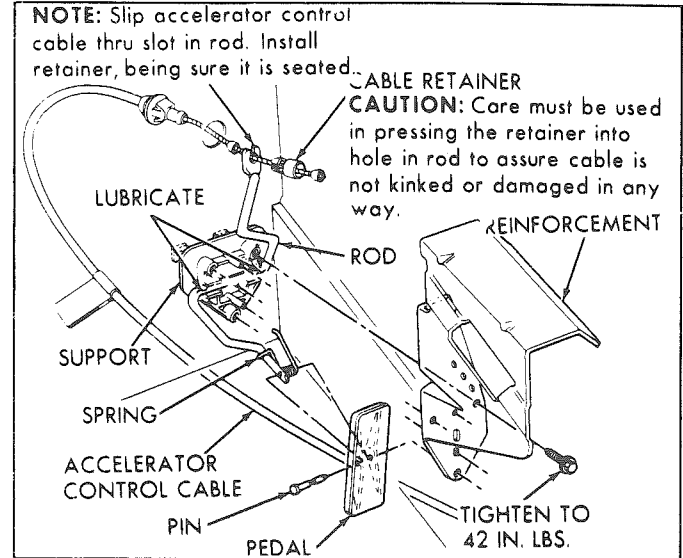

Figure 40 — Accelerator Pedal
**ACCELERATOR PEDAL** — Refer to figure 40 for removal and installation of accelerator pedal.